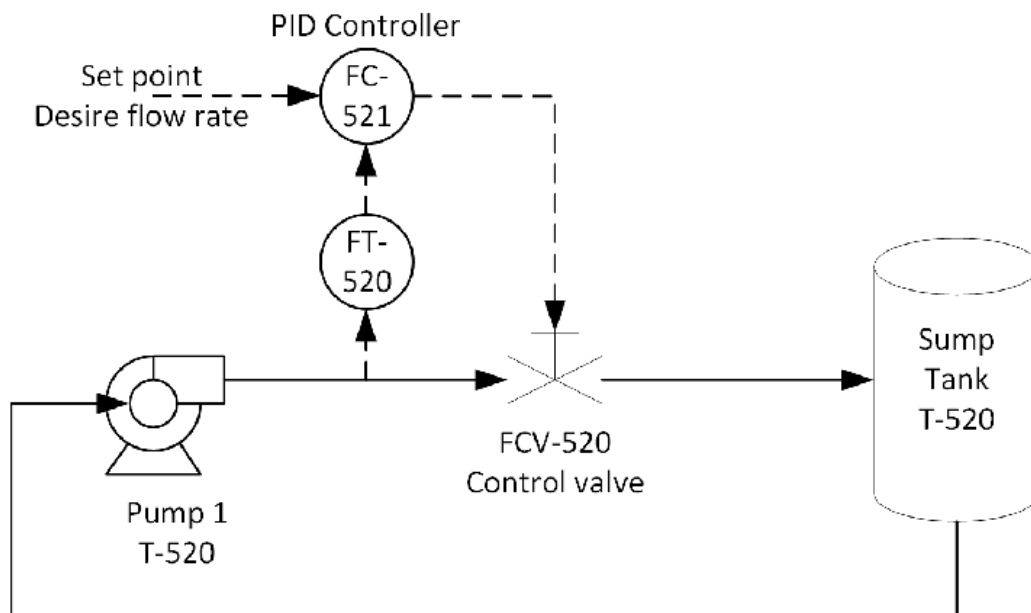

Figure 1: Industrial flow control loop [7]
Industrial flow control loop is presented in Figure 1, and it consists of a flow transmitter (FT), flow controller (FC), flow sensor, control valve (FCV), and a pump. Control valve controls the flow, while pump delivers more flow when needed. The flow inside the pipe is measured with devices mentioned above as orifice, venturi or ultrasonic flow. The measured value is then transmitted using FT and sent to a controller FC, where value is compared to the setpoint value. The difference of the two is recorded and sent to the control device that corresponds to the results and changes flow if necessary. If the measured value is higher than a setpoint then the flow is decreased or blocked. However, if the measured value is smaller than the setpoint value the control valve opens to increase the flow. The figure below shows simple water flow control loop.
- [7] https://www.researchgate.net/figure/SE113-Water-Flow-Control-Schematic-Diagram_fig1_332432639